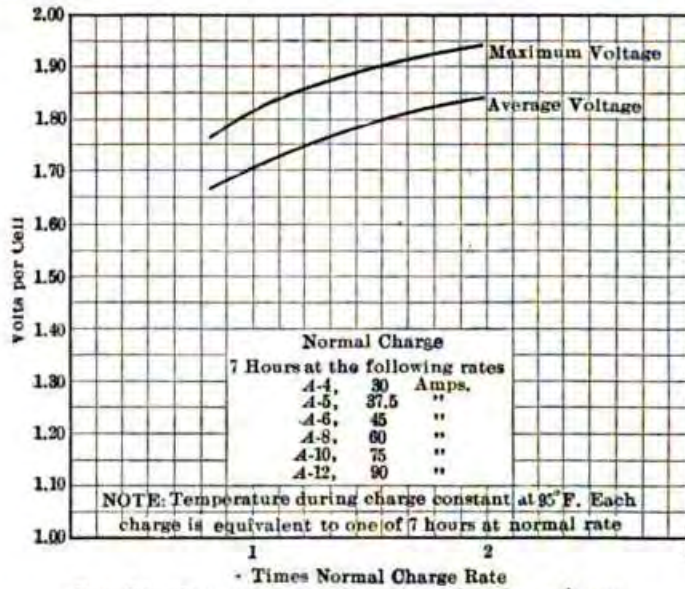

FIG. 56.—Temperature influence on charging voltage.
**218. Charging curves.** Maximum and average voltages of charge as influenced by charging rate, are shown in Fig. 56. In these curves, the cell is presumed to have a constant temperature of 95 deg. Fahr. and the duration of charge is 7 hr. The voltage on charge decreases considerably with increasing temperatures.